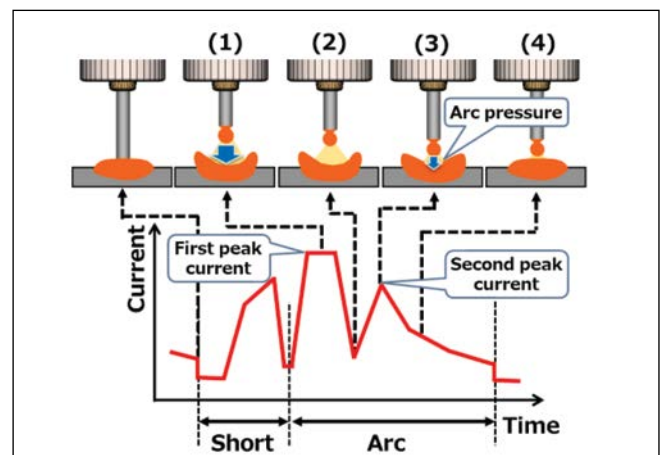

Figure 4: New current waveform suppress repelled transfer and instantaneous short-circuiting.
The other waveform control that has been developed is shown in Figure 4. After the first peak current is output, the current is rapidly reduced to prevent repelled transfer at arc reignition as shown in Figure 4 (1)-(2). After that, the secondary peak current is also output to suppress instantaneous short circuiting between droplet at wire tip and molten pool – Figure 4 (3)-(4)^[6]. In both cases, spatter generation at the time of reignition is suppressed by causing large molten droplets on the welding wire tip to dip into the molten pool in a periodic cycle aligned with the wire axis.